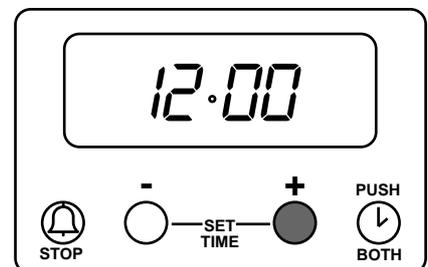

Fig. 6.5
Within 5 seconds, press and hold either button (1) to decrease or button (2) to increase the time until the correct time of day on the 24 hour clock is reached, e.g. 14.30. See Fig. 6.5.